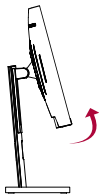

Figure2
2. Adjust the display to the appropriate angle according to the direction of the arrow in Figure 2.